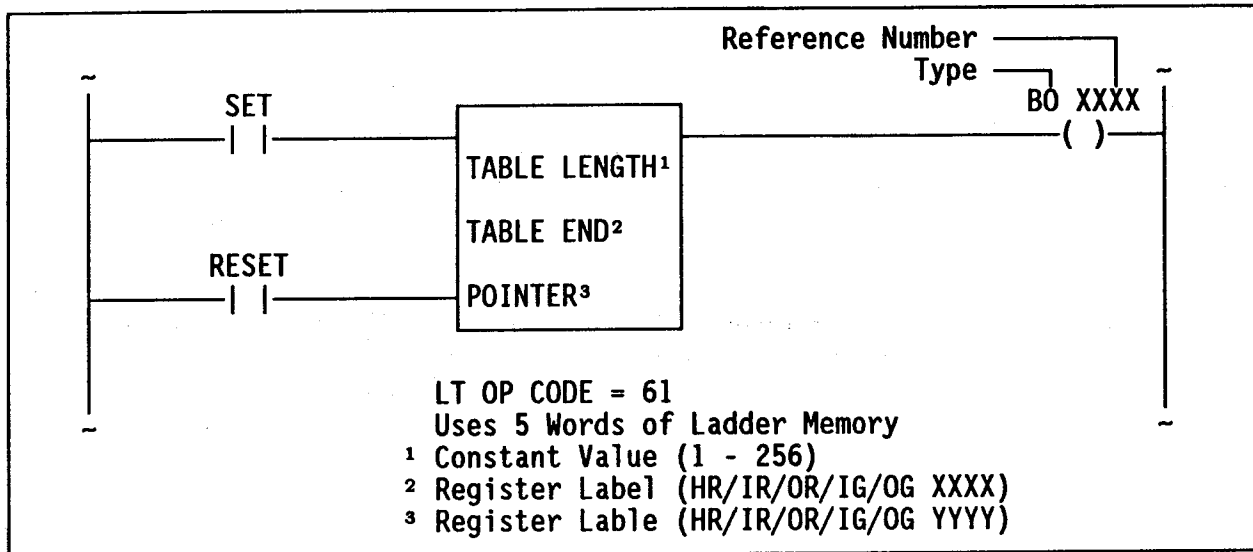

Figure 1. Bit Operate (BO)
The Bit Operate (BO) function allows the user to selectively monitor or manipulate a designated bit in a predefined table or matrix. The value (up through 4096) in a pointer location specifies the bit. The state of the BO coil reflects the state of the bit. Bit manipulation is accomplished by using a set input and a reset input in accordance with Table 1. BO function symbology is shown in Figure 1.